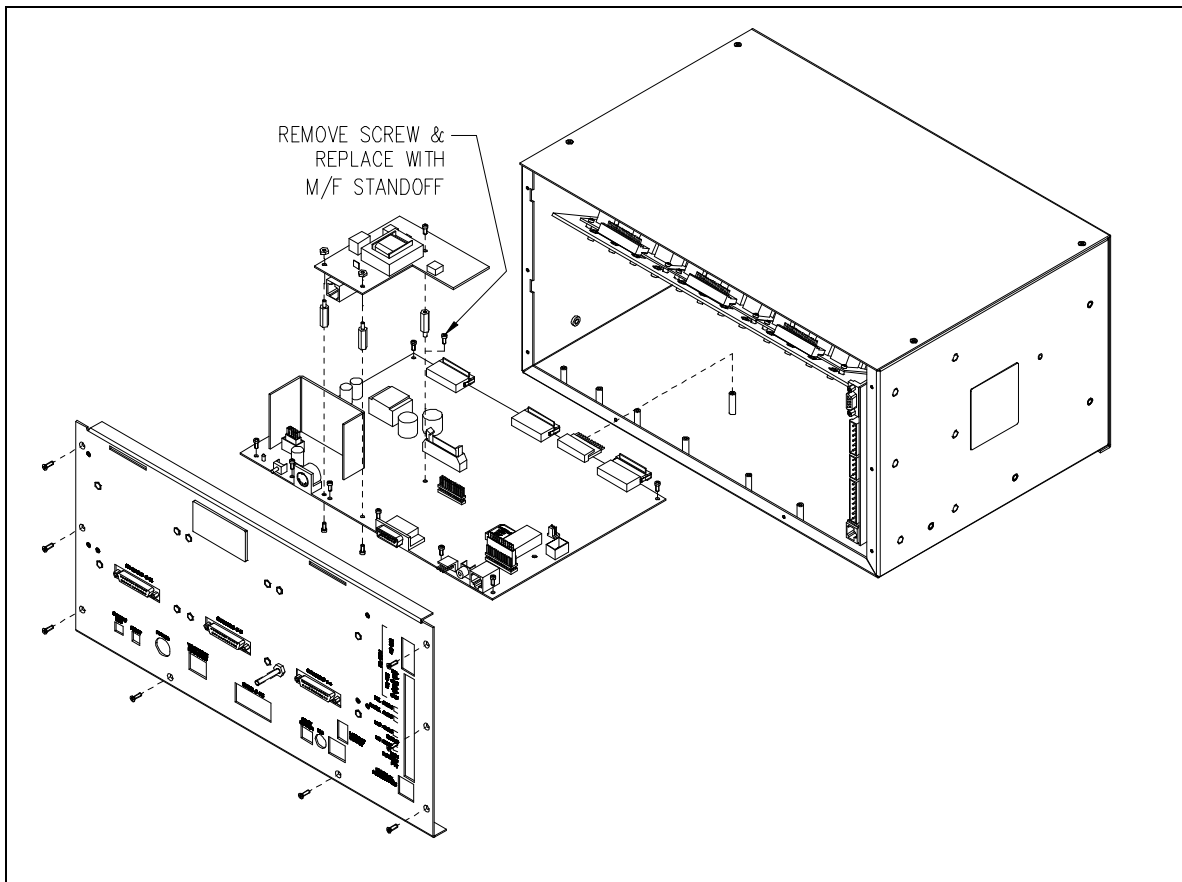

Figure 3.
2. Remove the 8 screws securing the rear panel. Gently pull the rear cover from the housing and disconnect the ribbon cables (SLV-CBL-P) attached to the surge suppression PCBA. Lay the rear panel flat. See Figure 3. (Do not install the phone PCBA at this point.)
5. Remove the screw in the center of the main control PCBA. Screw in one of the supplied #4-40 male/female standoffs. See Figure 3.
6. Attach the remaining two standoffs in the two open holes highlighted by circles on the main control PCBA. Place the threaded side through the holes and attach the supplied #4-40 nuts to the underside. See Figure 3.